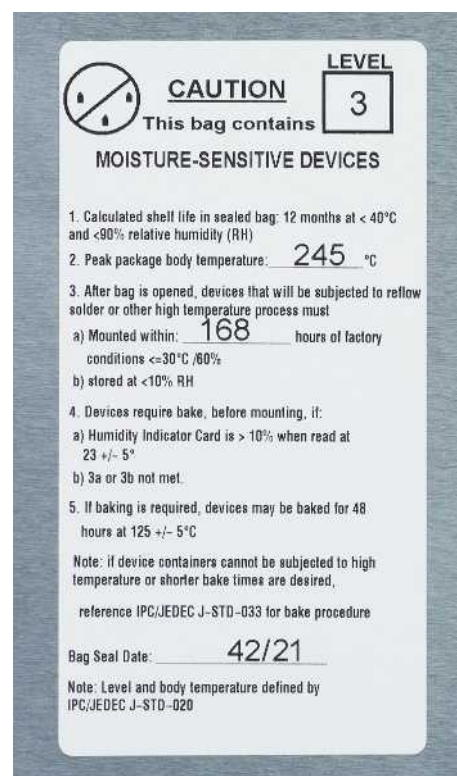

Fig. 36: Identification
- The date the dry bag was sealed (Fig. 36)